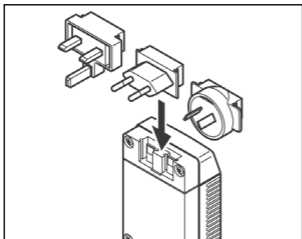

Fig. 4 SNT-121A Adapter/Charger.
3. Slide a different AC line plug adapter into the slot (see Fig. 4).